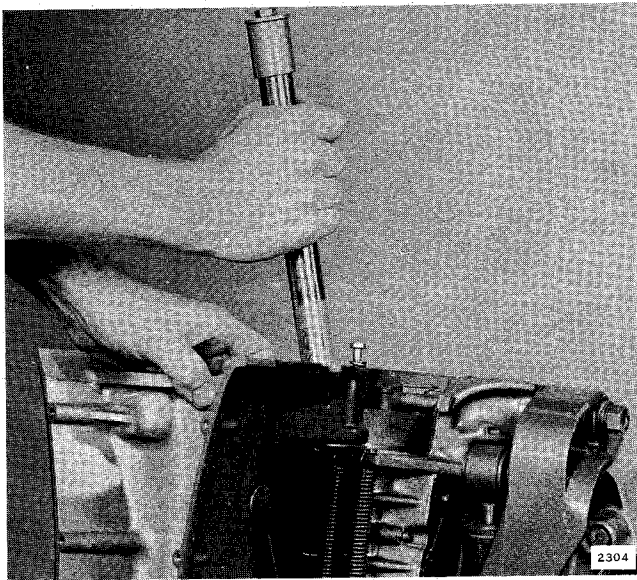

Figure 6-10. Removing Pivot Shaft and Front Cover
e. The front exhaust cover is hinged to the swivel bracket by a pivot shaft. Loosen steering friction screw to release tension on steering friction spring. Remove screw and washer from bottom of pivot shaft. To detach front exhaust cover from swivel bracket, drive pivot shaft up from bottom and remove from top. See Figure 6-10. Tag upper and lower thrust washers to assure correct reassembly; they are not interchangeable.